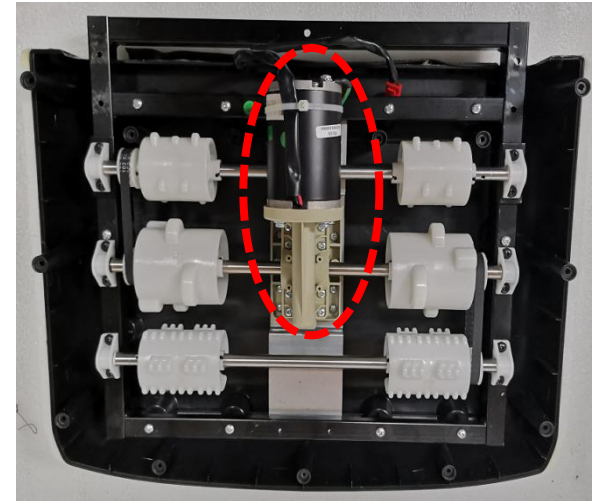

Figure 3
- D. If all above is normal. If the wiring harness is all right, consider replacing the sole roller motor (Figure 3);**